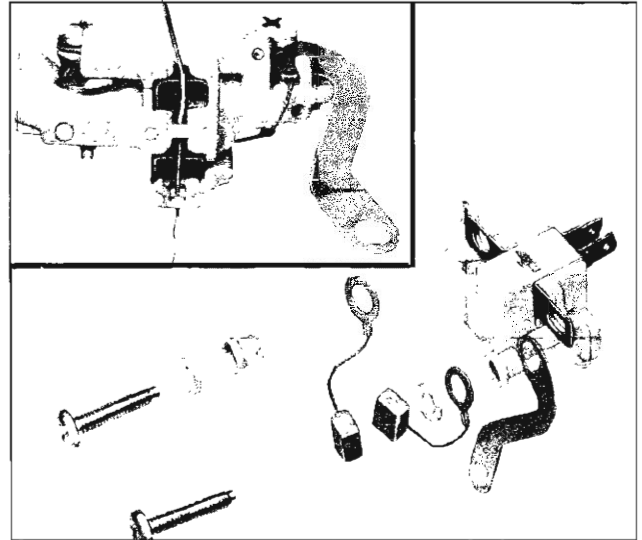

Fig. 30—Brush Assembly—5.5" Delcotron
Brush Replacement (5.5 Delcotron (fig. 30))
2. Attach brush holder assembly to the new end frame noting carefully proper parts stack-up (fig. 30) and insert pin or wire through the hole to hold the brushes in the holder (5.5" Delcotron). After the unit has been completely assembled, withdraw the pin or wire from the end frame hole to allow the brushes to drop down onto the slip rings.